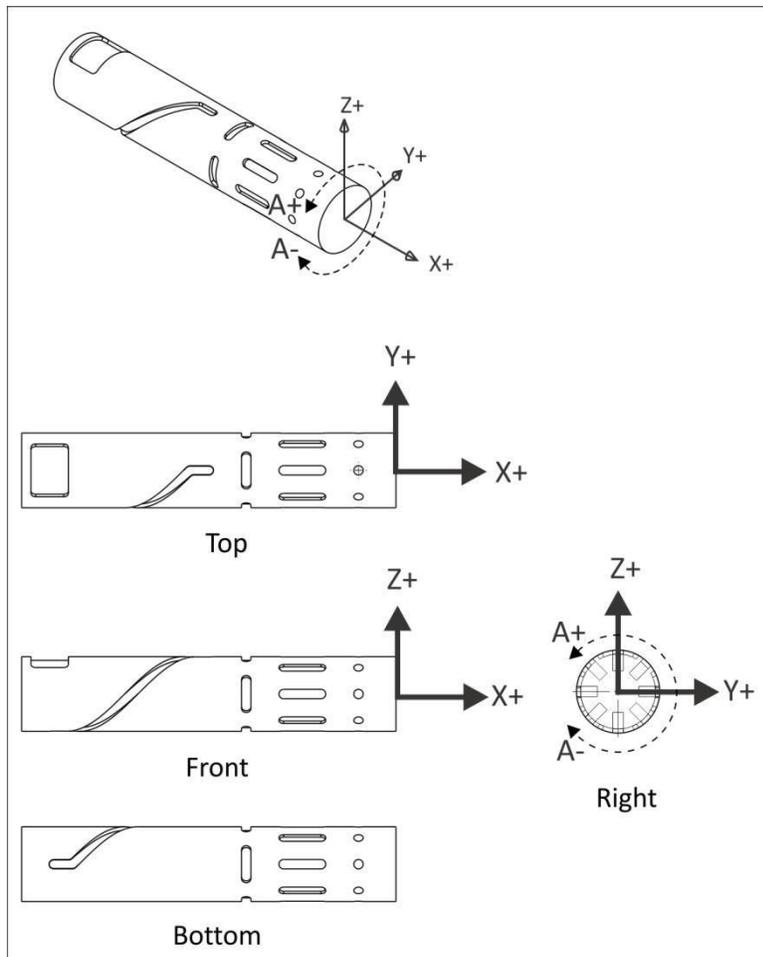

Figure 4: 4th Axis Substitution (X---A)
Axis substitution paths are illustrated in Figure 4. The most common setup is with the rotary axis mounted parallel to the CNC X---axis. With axis substitution machining, the tool axis centerline always points towards the centerline of the rotational axis (no Y---motion) when milling. The tool feeds to depth (Z) and then only up to two axes can move at once (X---A) to make the feature.